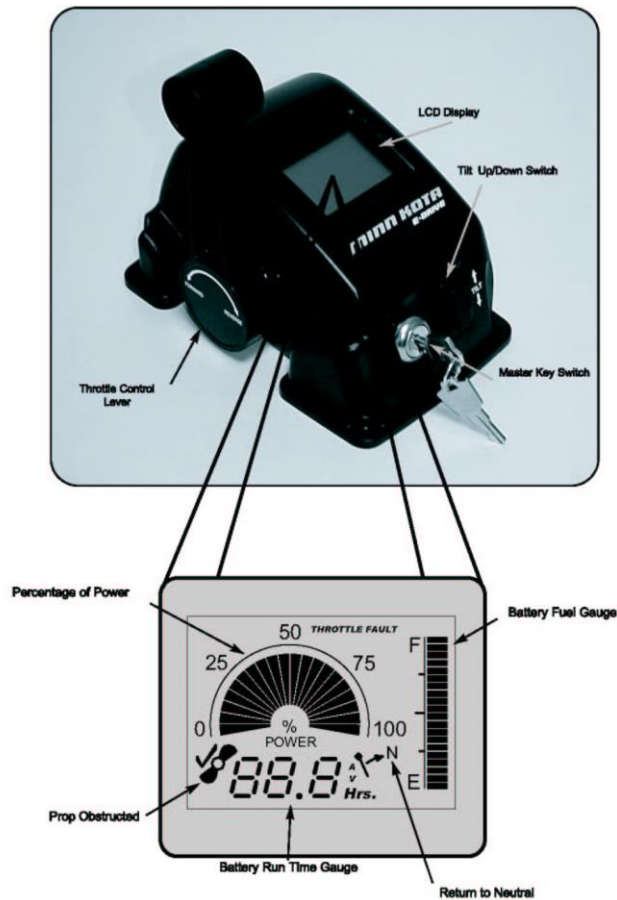

Figure 1
Step 3. Make sure the key switch is in the ON position. (See **Figure 1**, page 2)
Step 2. Make sure master key switch is in the ON position. (see **Figure 1, page 2**)